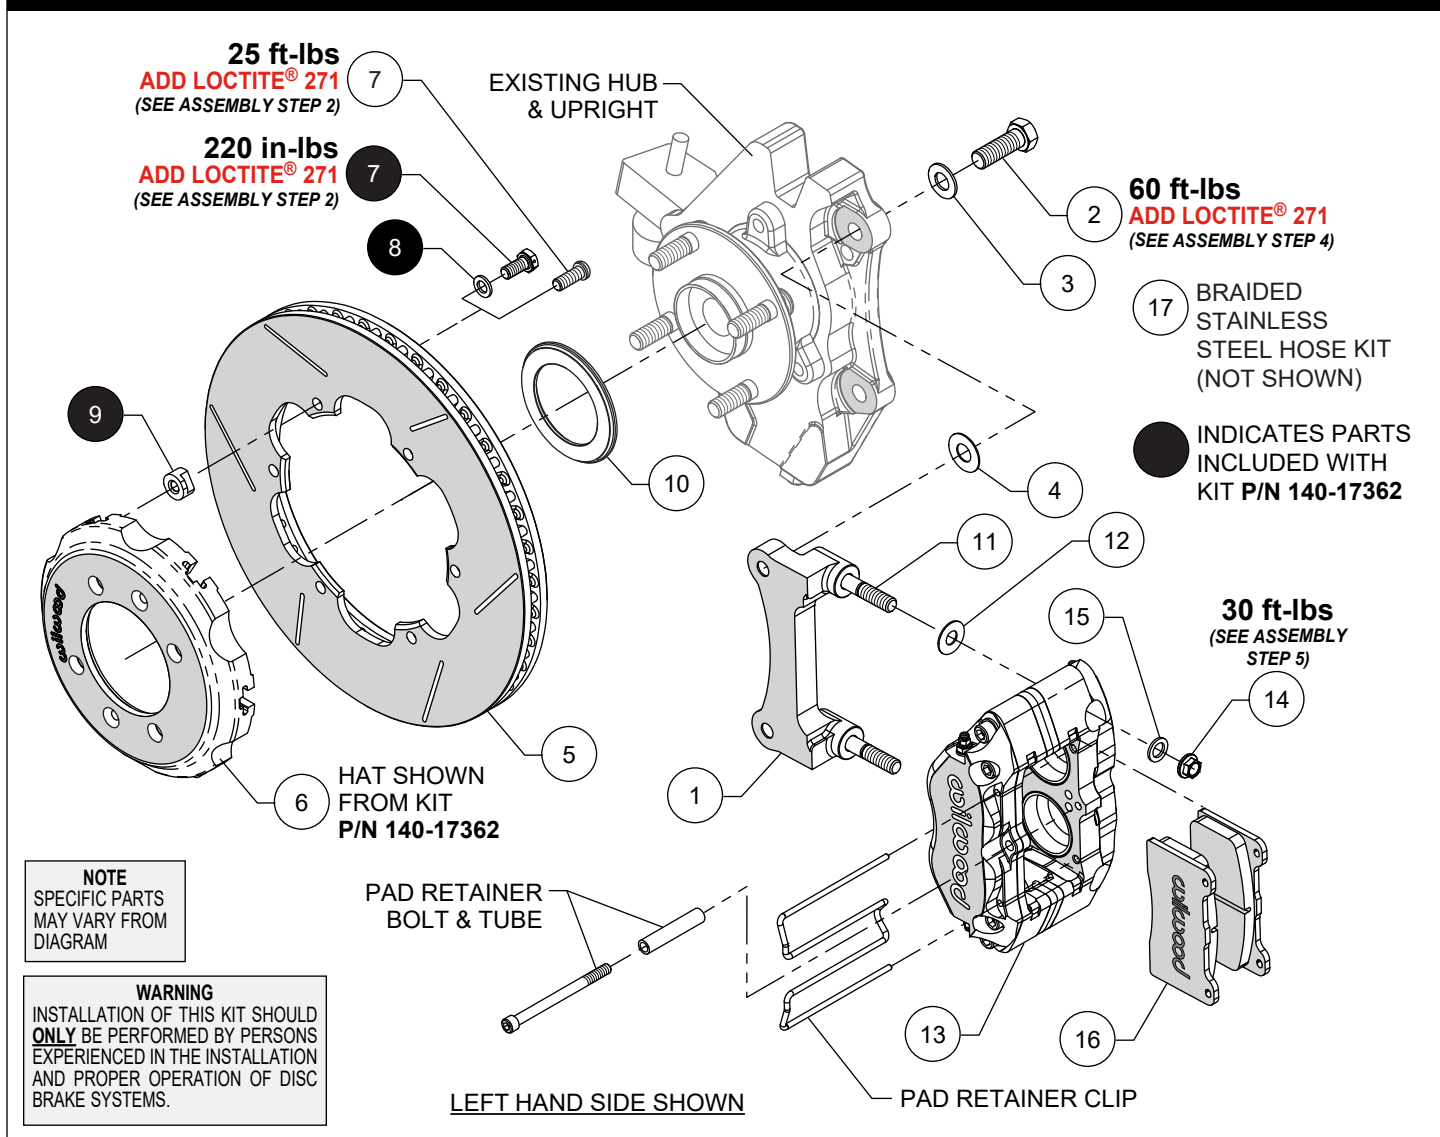
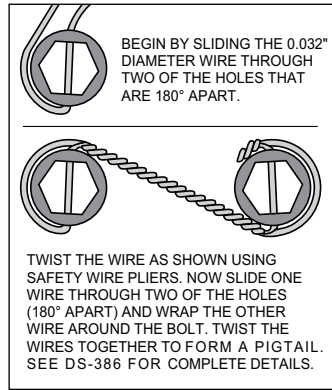

Figure 1. Typical Installation Configuration
Figure 3. Safety Wire Diagram
Numbers in parenthesis refer to the parts list and Figure 1 on the preceding pages.
STEP 1 The caliper mount bracket (1) should initially be installed with clean, dry threads on the mounting bolts. Orient the bracket as shown in Figure 1 and Photo 1, and install using bolts (2) and washers (3). Initially place one .033" thick shim (4) on each bolt between the bracket and upright, Figure 1 and Photo 2. Temporarily tighten the mounting bolts. **NOTE:** *The bracket must fit squarely against the mount bosses on the upright.* Inspect for interference from casting irregularities, machining ridges, burrs, etc. Later, after the caliper alignment has been checked, the mount bolts will be secured using red *Loctite*® 271.
For kit p/n 140-17362: Insert the t-nuts (9) into hat (6), Photo 3. Orient the rotor (5) and hat (6) as shown in Figure 1 and Photo 4a, then attach rotor to hat using bolts (7) and washers (8). Apply red *Loctite*® 271 to the bolt threads and torque to value shown in Figure 1 using a criss-cross pattern. Safety wire the bolts using standard 0.032 inch diameter stainless steel safety wire as shown in Figure 3. Refer to Wilwood's data sheet DS-386 (available at www.wilwood.com/Pdf/DataSheets/ds386.pdf) for complete safety wire installation instructions.
For kit p/n 140-17363: Orient the rotor (5) and hat (6) as shown in Figure 1 and Photo 4b, then attach rotor to hat using bolts (7). Apply red *Loctite*® 271 to the bolt threads and torque to value shown in Figure 1 using a criss-cross pattern.
STEP 3 Slide the rotor registration adapter (10) onto the register of the hub assembly with the smaller O.D. facing outward, Photo 5. Slide the rotor/hat assembly (5/6) onto the hub assembly. **NOTE:** *The hat must fit flush against the hub flange or excessive rotor run out may result.* Install three lug nuts (finger tight) to keep the rotor/hat assembly in place while continuing with the installation.
STEP 4 Mount the caliper (13) onto the caliper bracket studs (11). Initially place one .035" thick shim (12) on each stud as shown in Figure 1 and Photo 6. Mount the caliper (13) onto the bracket (1) using lock nuts (14) and washers (15), Figure 1. Temporarily tight-
en the lock nuts and view the rotor through the top opening of the caliper. The rotor should be centered in the caliper, Photo 7. If not, adjust by adding or subtracting shims (4) between the bracket and the upright. Always use the same amount of shims on each of the two mounting bolts. Once the caliper alignment is correct, remove the bracket mounting bolts (2) one at a time, apply red *Loctite*® 271 to the threads, and torque to value shown in Figure 1.
STEP 5 Remove the caliper pad retainer clip, bolt and tube from the caliper. Insert the brake pads (16) into the caliper, with the friction material facing the rotor, as shown in Photo 8. Check that the top of the brake pad is flush with the outside diameter of the rotor, Photo 9. If not, adjust by adding or subtracting shims (12) between the caliper and the bracket. After the caliper pad height is set, reinstall the pad retainer clip, bolt and tube, Photo 10. The bolt should be snug without play in the tube. Be cautious not to over tighten. Torque the caliper lock nuts (14) to value shown in Figure 1.
STEP 7 Attach supplied brake line to caliper. **NOTE:** OEM rubber brake hoses generally cannot be adapted to Wilwood calipers. Install Wilwood's stainless steel braided flexline hose kit (17), P/N 220-12948 included with this kit. The caliper inlet fitting is a 1/8-27 NPT. Use the included steel adapter fitting at the caliper (use PTFE tape on the pipe threads of adapter fitting for proper sealing to caliper) and note final orientation of fitting as shown in Photo 11 (arrow A). Route new flexline as shown, using the supplied flexline clamp (arrow B) to secure line to upper control arm. **Ensure hoses are routed to prevent contact with moving suspension, brake or wheel components.**